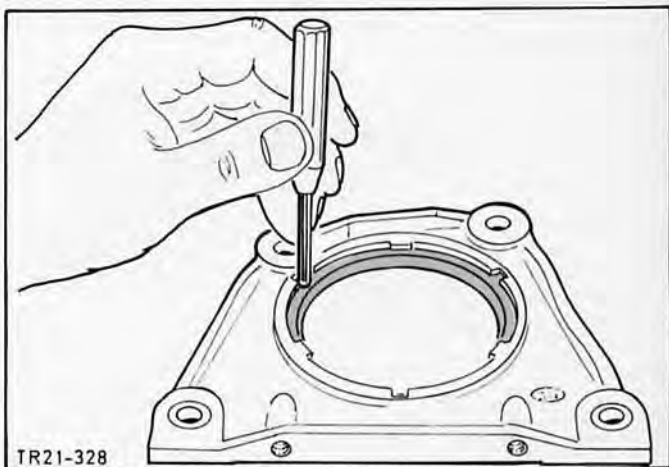

Fig.41. Drive oil seal out of the carrier.
31. Remove oil seals from timing cover and oil seal carrier using a drift, Fig.41.